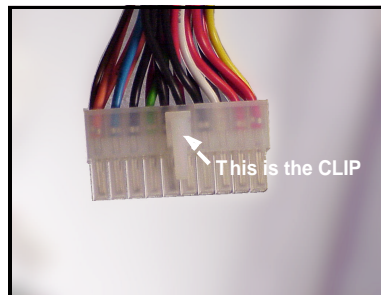

Figure 2.4a
Step 1: Shown on the right, in Figure 2.4a, is the 20-pin connector of the ATX power supply.